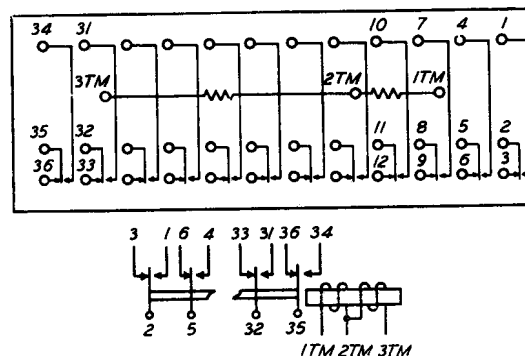

Fig. 99 – Winding and Spring Terminal Arrangement as Viewed From Rear (terminal side) — KS-5264 Transfer Switch
3.16 **KS-5264 Transfer Switches:** With the switch mounted vertically with the pivot below the center of the coil, when viewed from the terminal side of the switch, the contacts in any row of terminals number from the top down beginning with 1 in the right row of terminals and progressing to the rows toward the left. The three winding terminals number from right to left as shown in Fig. 99.